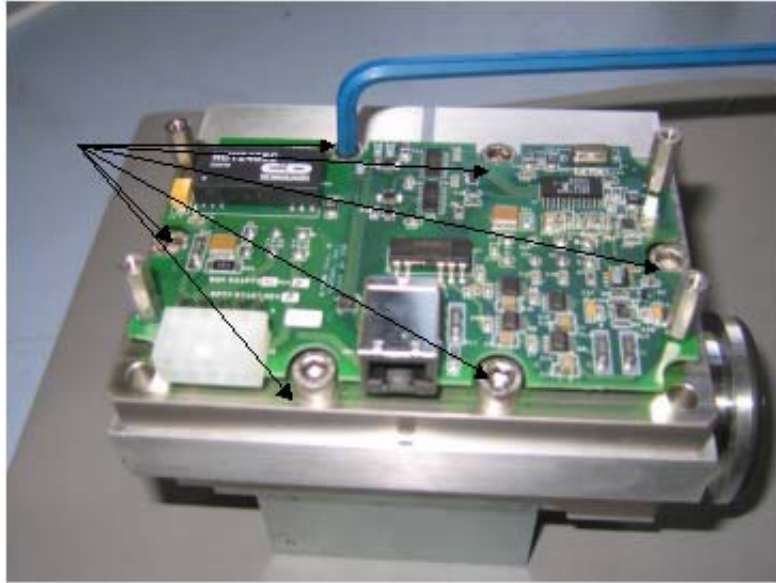

Figure B-51 Spectrometer Header Assembly Screws
- Using an M5 allen wrench, remove the six screws holding on the spectrometer header assembly (Figure B-51).